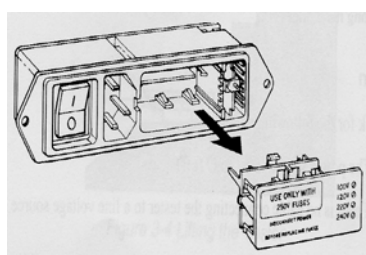

Figure 3-9 Remove fuse holder
2. Remove the fuse holder from the connector as Figure 3-9 illustrates.